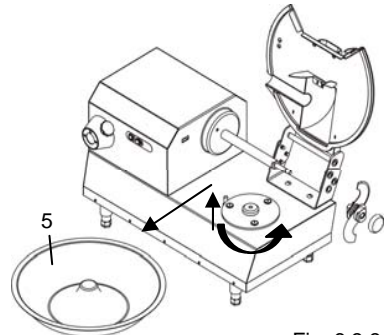

Fig. 6.3.3
- Turn the tank "5" counter-clockwise (Fig. 6.3.3) in order to release it from its seat
- After having followed the instructions described in Par. 6.4 remove the tube Ref. 6 Fig. 6.3.3.